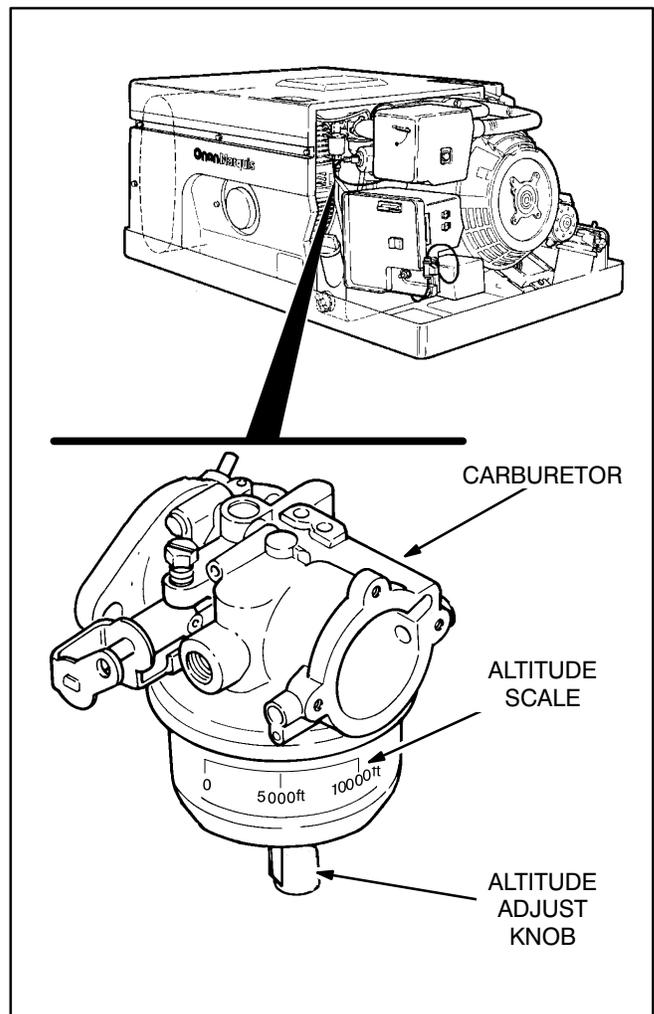

FIGURE 11. ALTITUDE ADJUST KNOB (GASOLINE MODELS ONLY)
3. Set the altitude adjust knob (Figure 11) for your altitude (gasoline models only).
- Set the altitude adjust knob (Figure 11) for your altitude (gasoline models only).
For best fuel economy and genset operation set the carburetor altitude adjust knob (Figure 11) for your altitude (gasoline models only). Look at road maps, travel atlases and road signs for altitude. (See *Powering Equipment* for information on how altitude affects the maximum power output of the genset.)